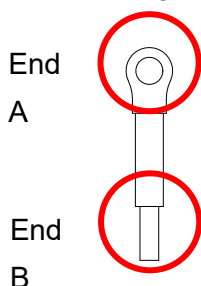

Figure 8-11
- You must ground the option cards as listed below when wiring. The ground terminal is included in the option card package, as shown in Figure 8-11.